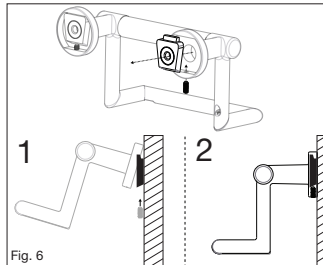

Fig. 6
10. Attach Assist Bar onto mounting bracket and secure with the provided 10-24 X 1/2" Socket Set Screw. Repeat for opposing side. **(Fig. 6)**